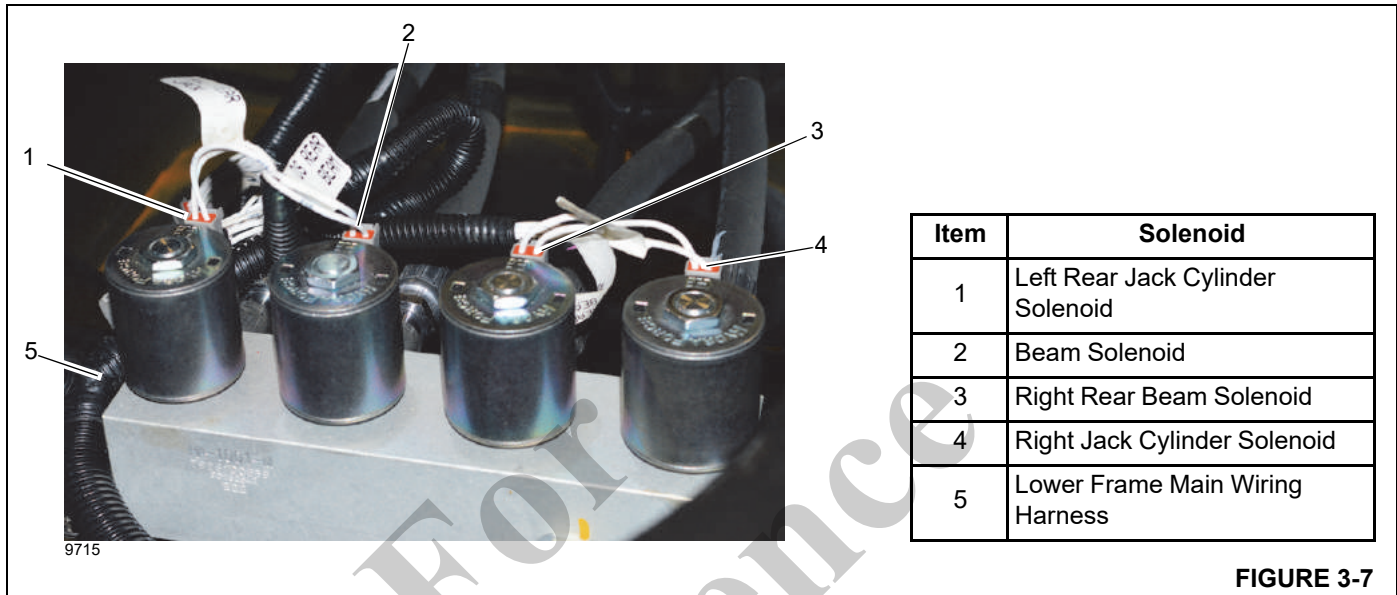

FIGURE 3-7
The rear outrigger manifold is mounted in the center of the crane frame between the rear of the superstructure cab and rear outrigger box (Figure 3-7).
**NOTE:** The front outrigger modules (Figure 3-6 and Figure 3-7) are not serviceable; contact Manitowoc Crane Care Customer Service with any service or repair questions about the module.
The solenoids on the rear outrigger manifold control the rear outrigger functions. The lower front module controls the rear solenoids. See Figure 3-7 for solenoid identification.